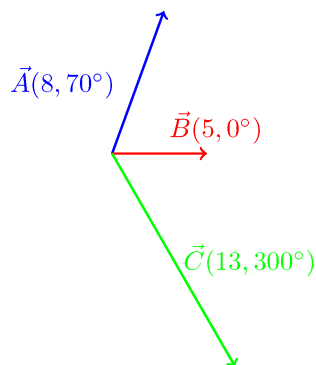

Figure 2.14
**Example 2.7.** Three forces of 5 N, 8 N and 13 N act as shown in Figure 2.14. Calculate the magnitude and direction of the resultant force.